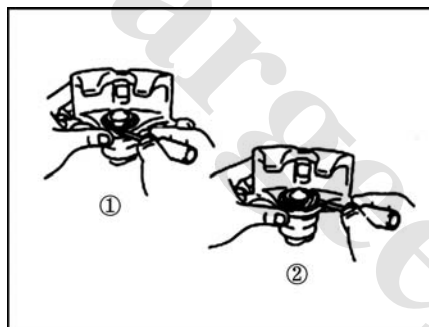

Fig. 2-53
9) Remove the dustproof cover of the brake slave cylinder. Remove the fixing ring and dustproof cover by a screwdriver. See Fig. 2-53.